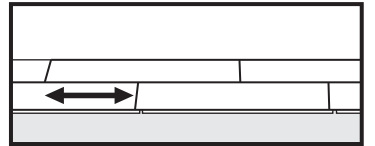

Fig 8.
- End joints should never be closer than 9 inches or half the distance of the plank from each other. (See figure 8.)